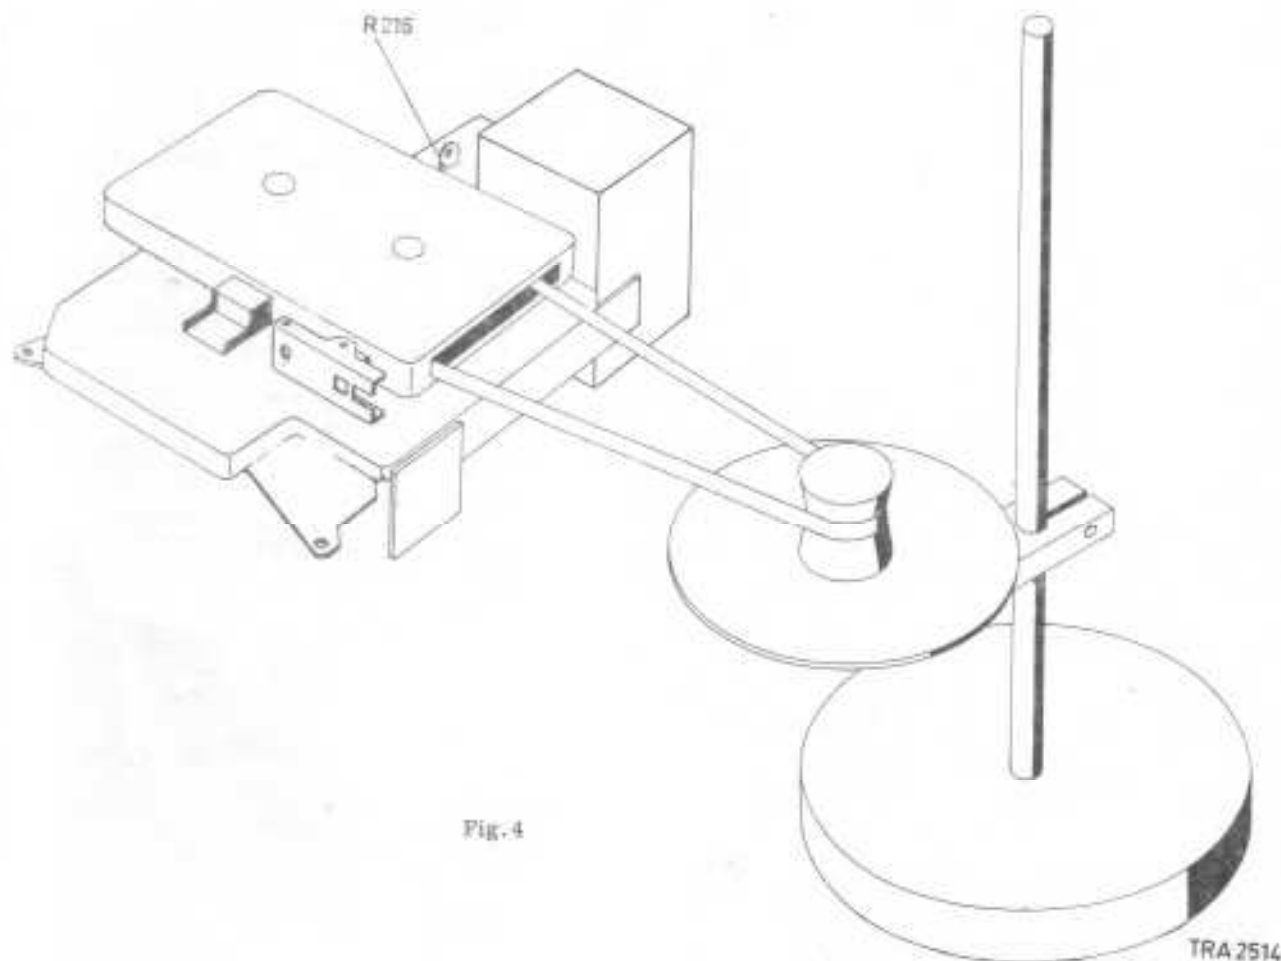

Fig. 4
- Adjust for maximum output voltage with screw E (Fig. 4).
- The force required to pull the pressure roller just clear of the capstan, should lie between 150 and 190 g, see Fig. 4.
When the torque of the winding friction is too small, the pressure exerted on the turntable by the pulley should be measured first of all, as indicated in Fig. 4. Too high a pressure causes a considerable reduction of the torque. If the pressure is correct and the torque of the winding friction yet too small, winding friction 62 should be replaced. After replacement the winding friction should be checked once again.